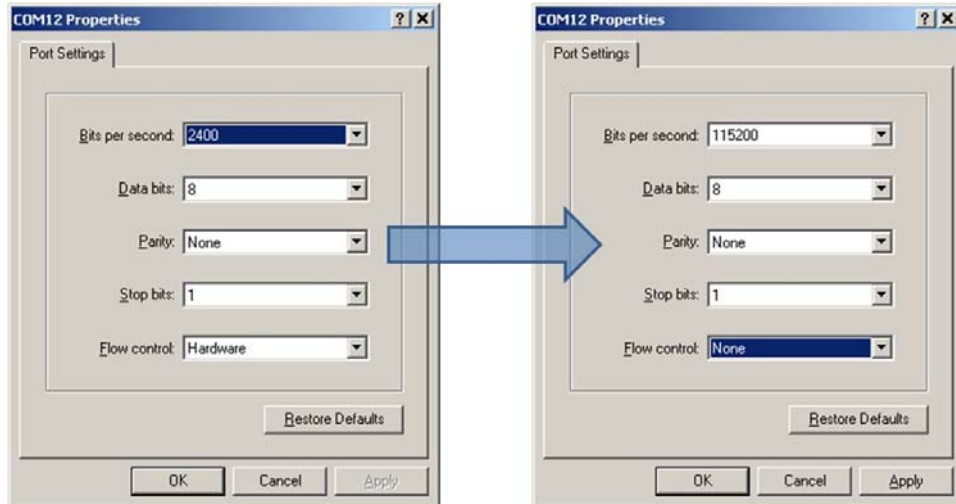

Figure 3 – Screens, COM [#] Properties Input
- 5) The 'COM [#] Properties' window will appear as in Figure 3. Enter the parameter shown on the right and click 'OK'. A blank '[name] – HyperTerminal' screen will appear.